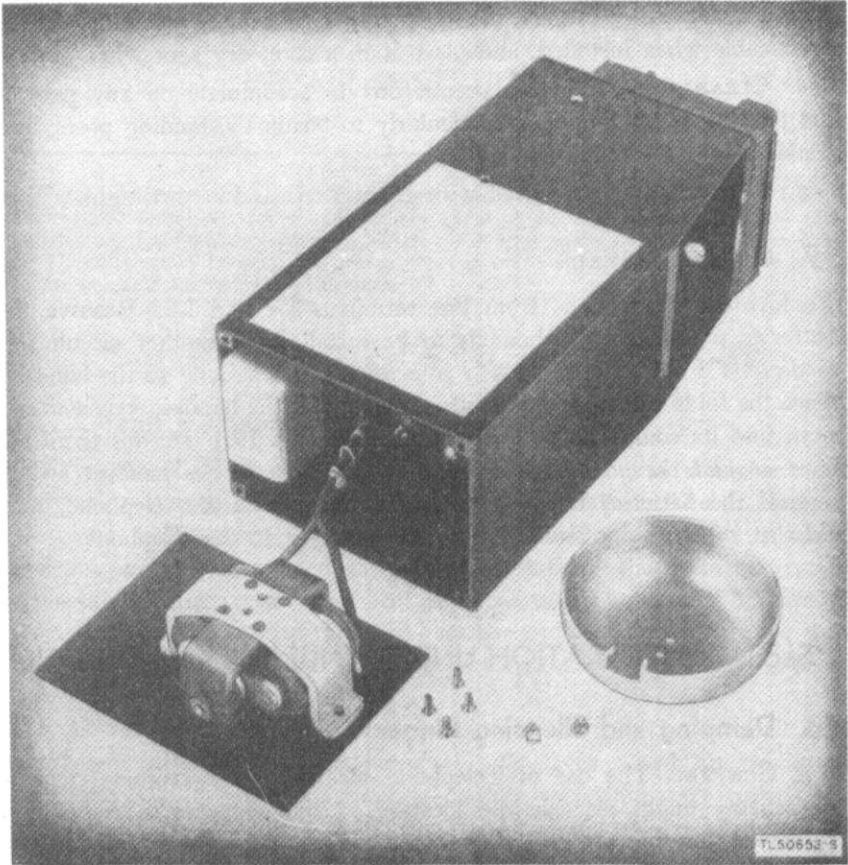

Figure 20. Telephone EE-8, gong removed from ringer assembly.
b. **DAMPING.** (1) *Removal of gong* (fig. 20). With the gong removed, the incoming ringing signal will be a dull vibrating sound. To remove the gong: